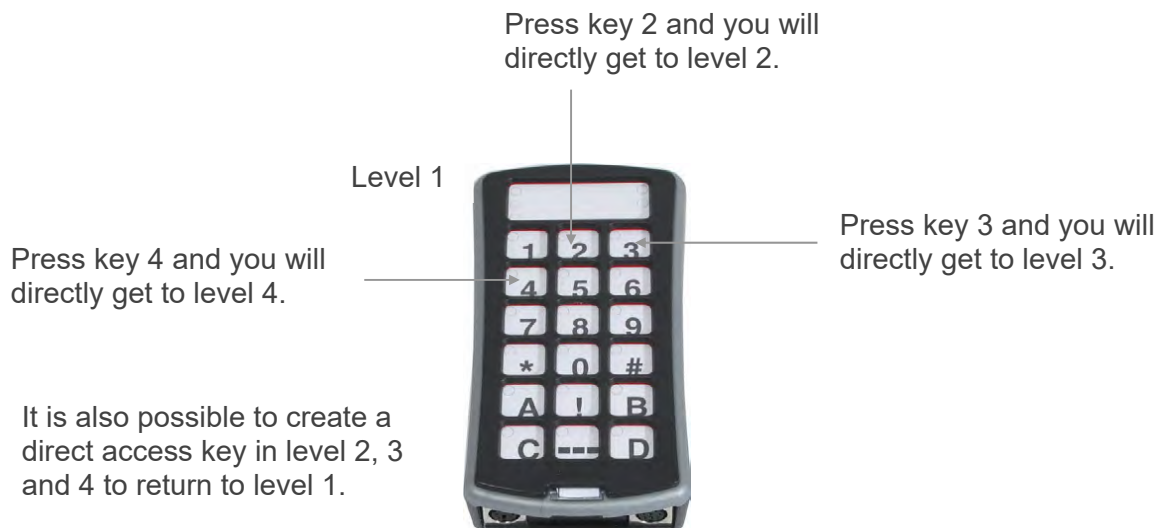

Figure 6
Control Prog makes it possible to create direct access keys which mean that you can reach a level by pressing a selected key. If you are at level 1 for instance and press key 2 you will directly reach level 2. By pressing key 3 you will directly reach level 3 etc. When you are at level 2, 3 or 4 you can press a new direct access key to return to level 1. You need to create the direct access keys for these levels in advance. See Figure 6.